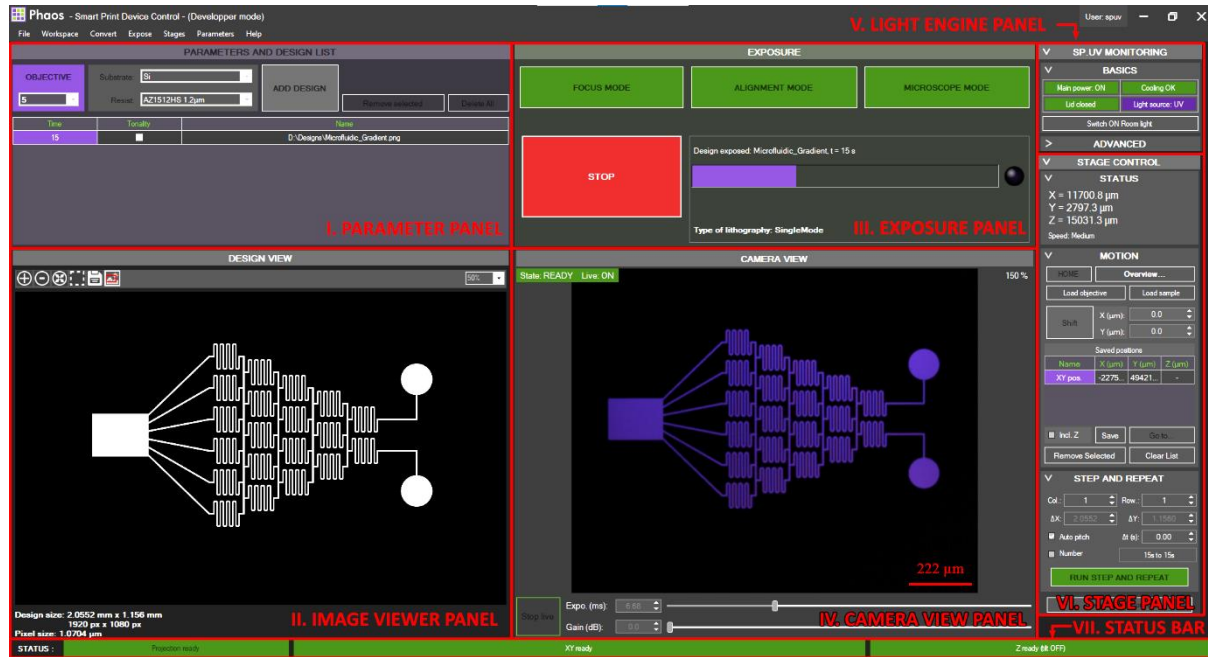

Figure 10 – Phaos main window
The software main interface is composed of 6 panels (Figure 10):
- On the **PARAMETER** panel (Figure 10), choose your **objective**, **substrate** and **resist** from the corresponding drop-down lists (Figure 11).
- Click on **FOCUS MODE** in the **EXPOSURE** panel (Figure 10). Ensure that the protection filter is unloaded (Figure 13 left).
- Load the sample to be exposed, click on **EXPOSE SELECTED DESIGN** button (Figure 10) in the **EXPOSURE** panel
- Click on **EXPOSE SELECTED DESIGN** button (Figure 10) in the **EXPOSURE** panel
- In the **PARAMETER** panel (Figure 10), choose an **objective**, a **resist** and a **substrate** in the corresponding dropdown lists.